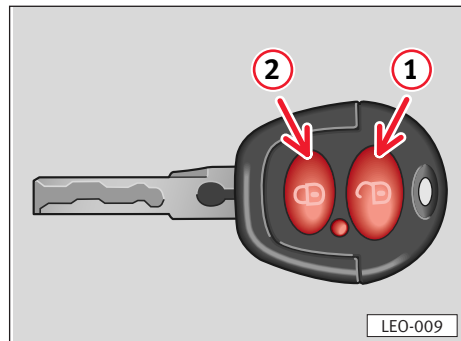

Fig. 68
To interrupt the triggering of the alarm you must turn the key in the lock clockwise or press the open $\Rightarrow$ fig. 68 ① button on the remote control.
To **open** the car, point the key at it within the effective range and briefly press the opening button ⇒ **fig. 68**, arrow ① **once**:
- If you press the opening button ⇒ **fig. 68**, arrow ① **twice** all the locks are unlocked.
2. Press and hold "close" button ⇒ **fig. 68**, arrow ②.
3. Press "open" button ⇒ **fig. 68**, arrow ① 3 times. Release "close" button. The key has now been recoded. To check the system, the warning lamp in the door trim will flash, and the light in the key will flash 5 times.